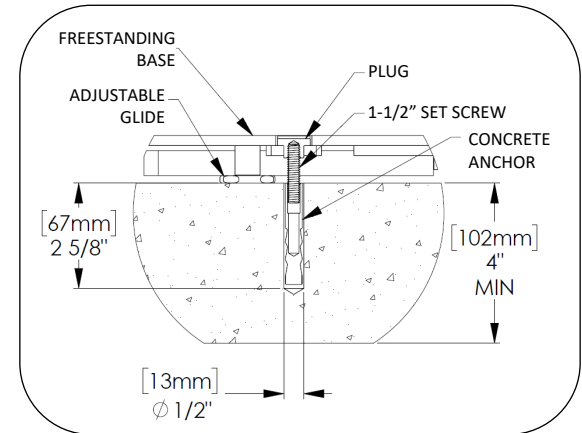

Fig. 5 – Anchor detail
6. Drill hole according to anchor size and depth, see Fig. 5. Clear hole of debris.